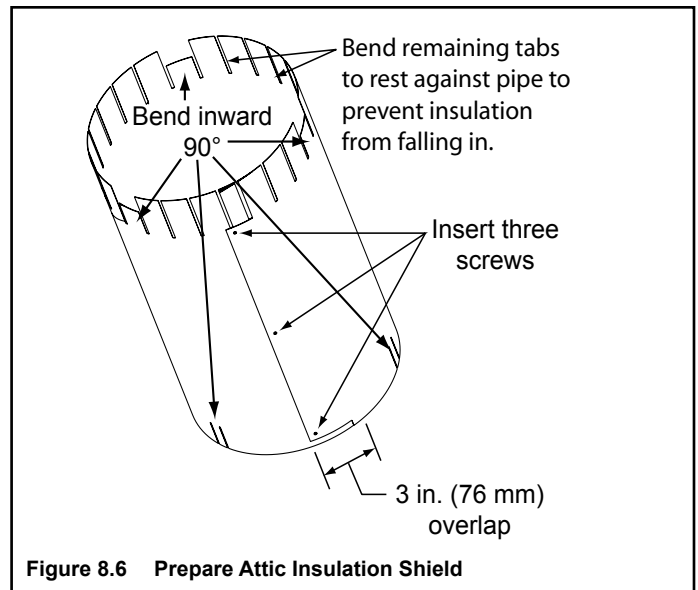

Figure 8.6 Prepare Attic Insulation Shield
- Refer to Figures 8.6 - 8.8.
- Bend three tabs on the bottom of the tube inward to 90° to maintain chimney air space (refer to Figure 8.6).